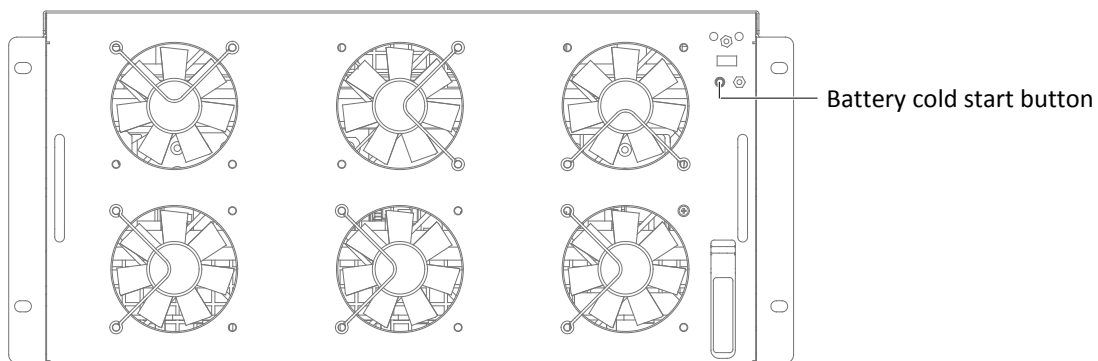

Figure 5-7 Battery cold start button
2. Open the front door, and press the battery cold start button (see Figure 5-7 for its position) of any module.